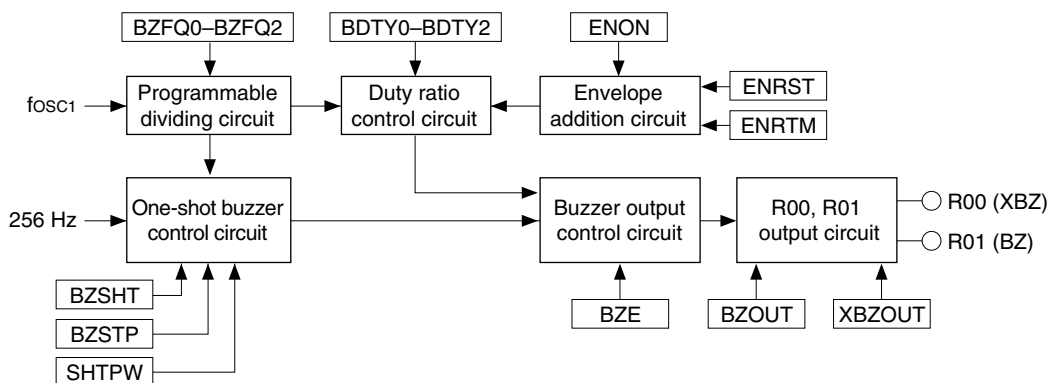

Fig. 4.12.1.1 Configuration of sound generator
The E0C63567 has a built-in sound generator for generating buzzer signals. Hence, generated buzzer signals can be output from the R00 (XBZ) and R01 (BZ) terminals. Aside permitting the respective setting of the buzzer signal frequency and sound level to 8 stages, it permits the adding of a digital envelope by means of duty ratio control. It also has a one-shot output function for outputting key operated sounds. Figure 4.12.1.1 shows the configuration of the sound generator.